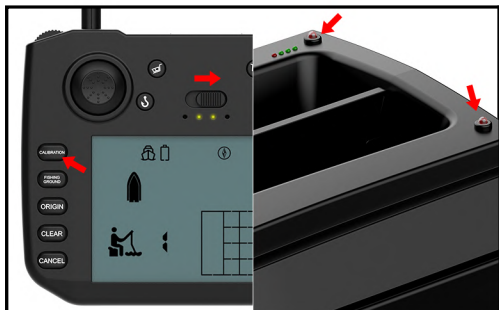

Figure 3
(1) Place the boat in a horizontal position, hold down the calibration button of the remote and turn on the boat switch. When The boat tail lights flicker; turn on the remote control switch (Figure 3)